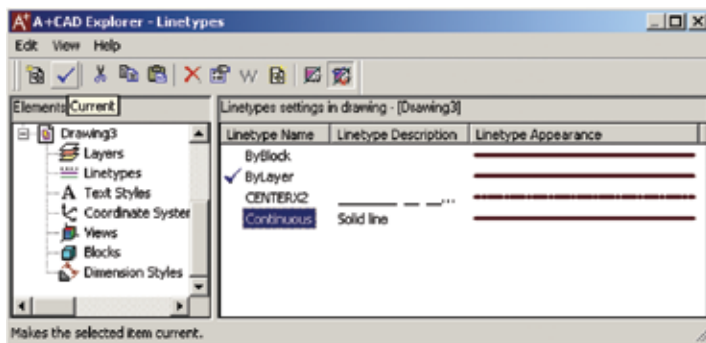

Figure 9.5
7. **Pick on the Center2X linetype** to highlight it, then select the Current button. See Figure 9.5. Exit the Explorer by clicking the X button in the upper right corner.